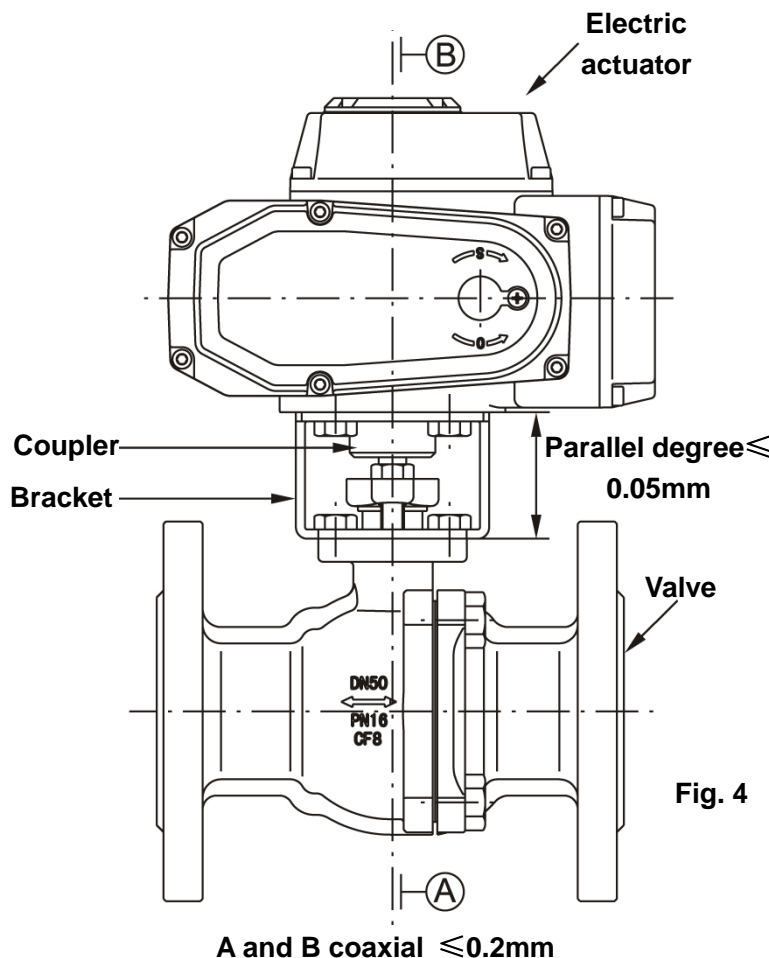

Fig. 4
1. Bracket and coupling shall be designed and processed by specialized technicians and conform to remark requirements in Fig. 4;